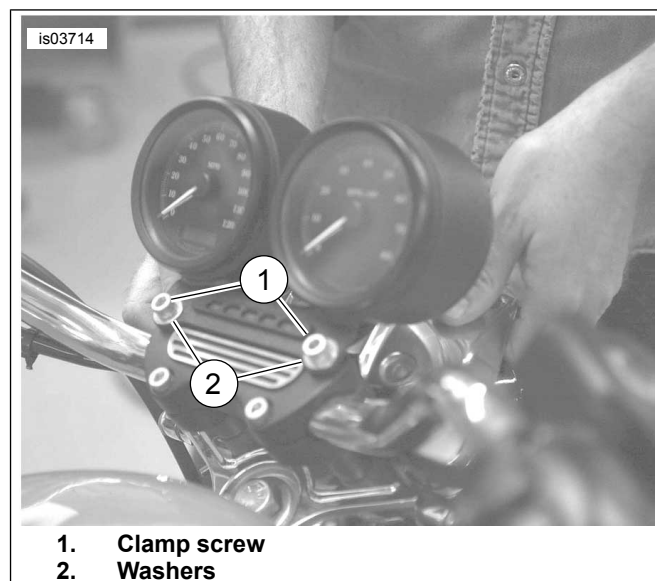

Figure 8. Install Speedometer/Tachometer Assembly
24. See Figure 8. Mount speedometer/tachometer assembly on handlebar clamp as shown using screws (1) and washers (2) saved from removal. Tighten screws just snug enough to hold handlebar in position.